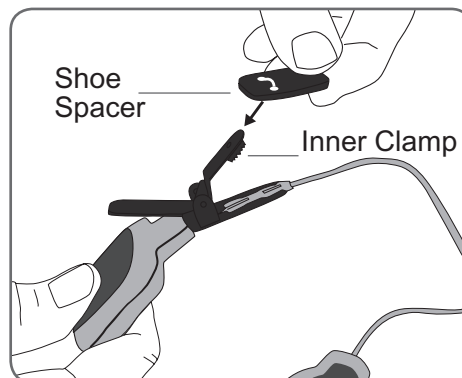

Figure 38: Covering the clamp with the shoe spacer.
4. Cover the inner clamp on the transmitter with the shoe spacer, if desired. See Figure 38. The teeth of the clamp may scuff the shoe, if not covered.